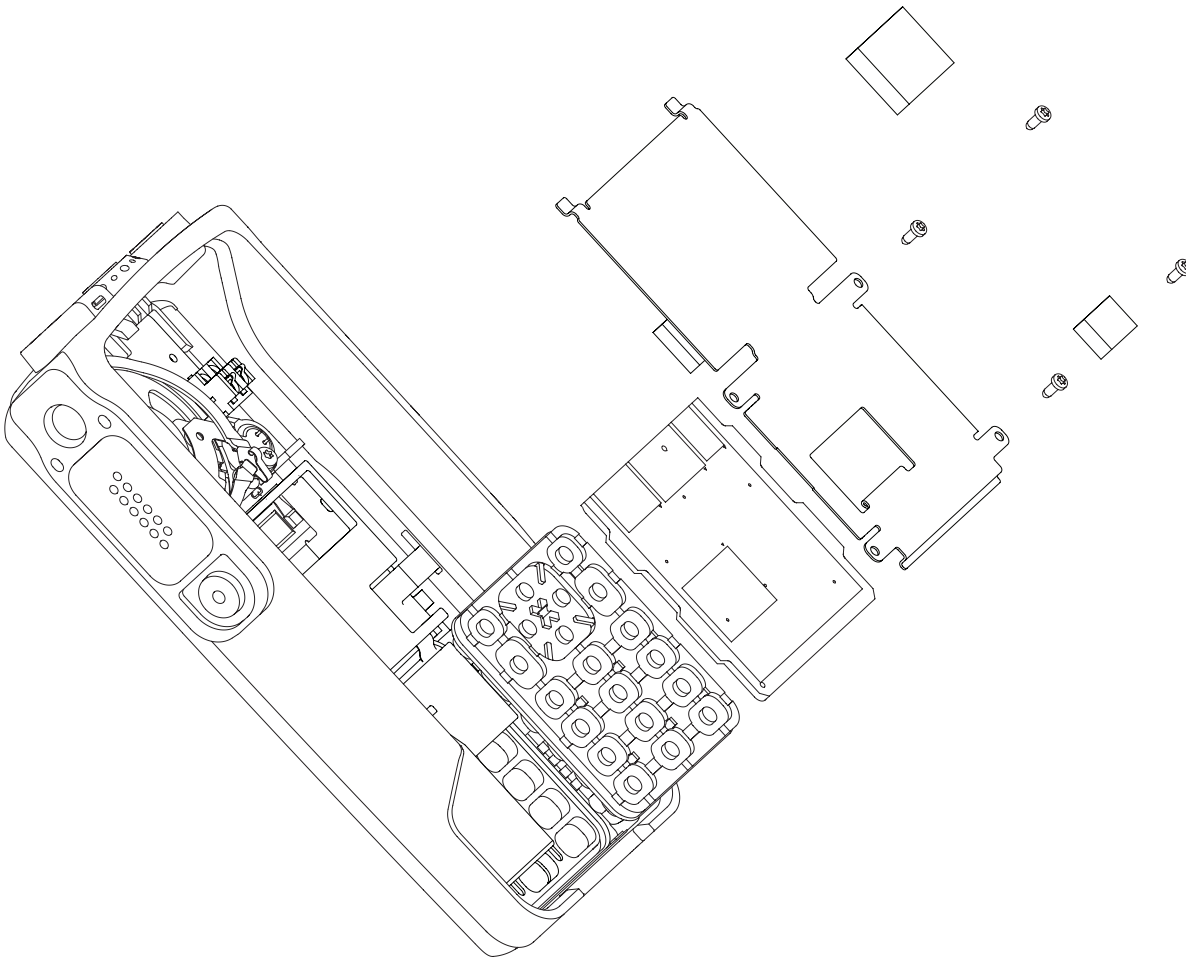

Figure 5-17. Keypad, Display, and Keypad Board reassembly for Full Keypad
4. Tighten the GOB screws following the sequence shown in Figure 5-17.